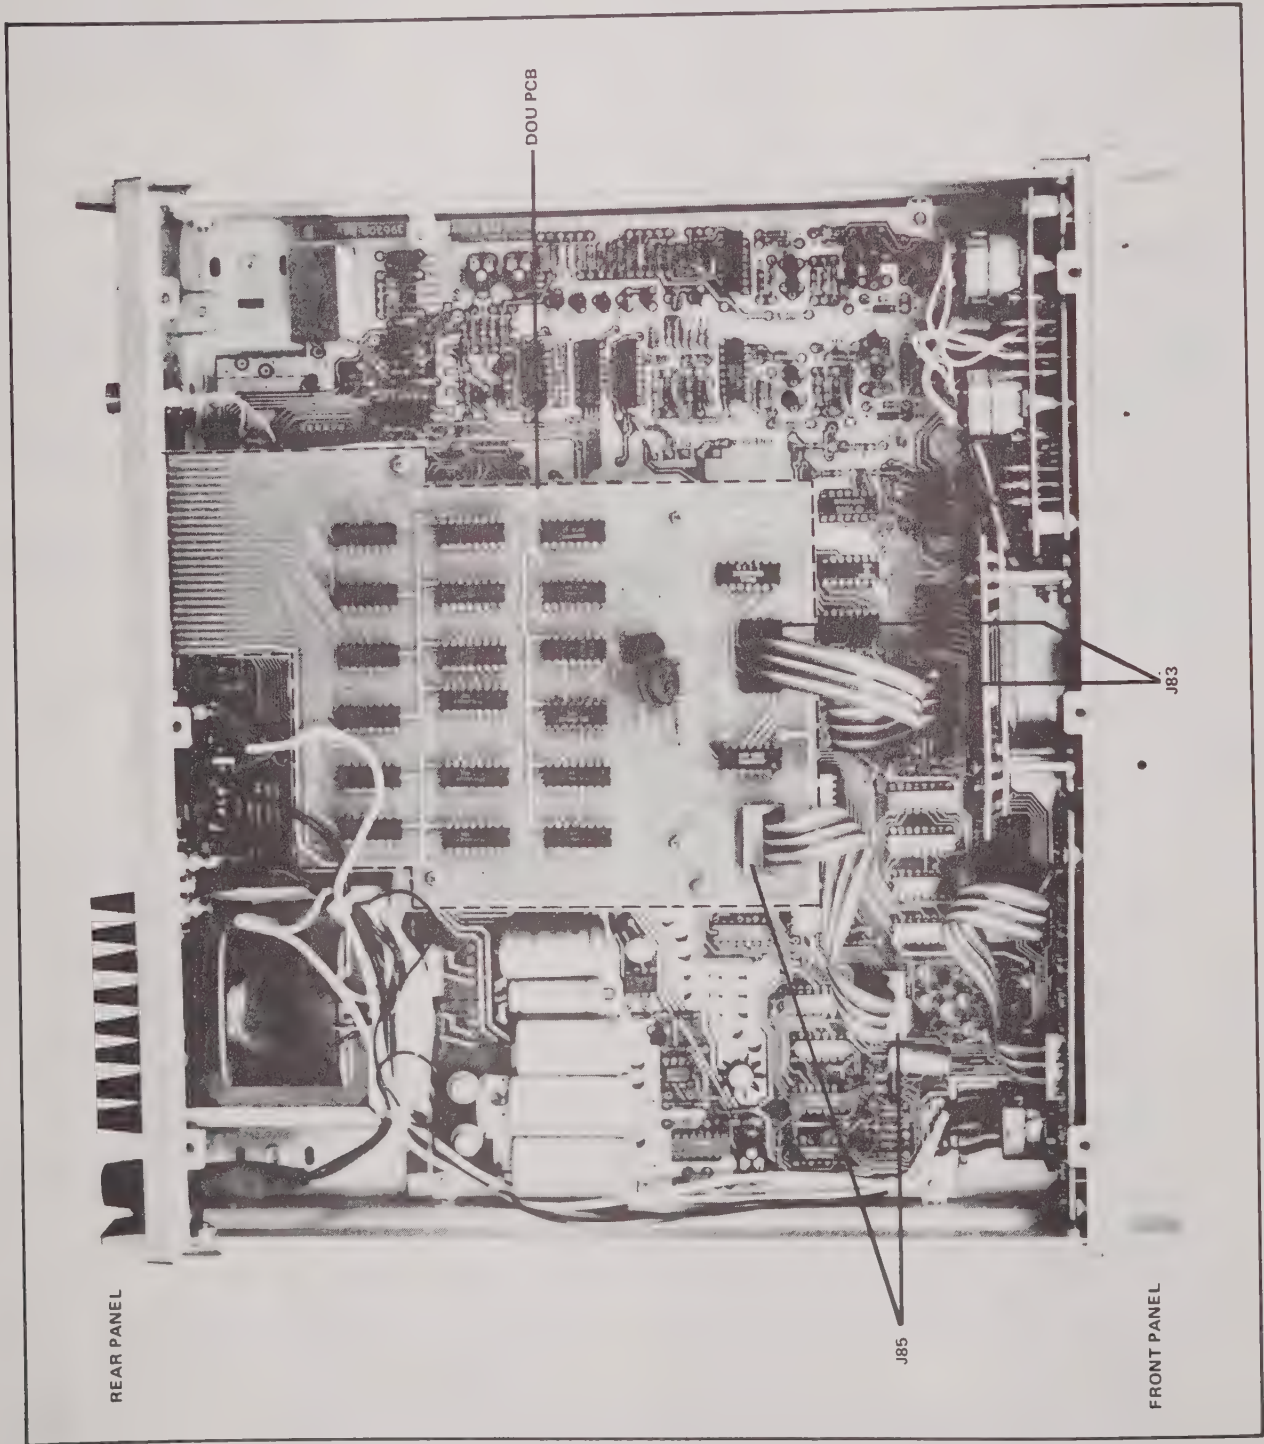

Figure 602-1. DOU Option Installed Position
- c. Position the DOU down on the main pcb in the position shown in Figure 602-1 so that the stand-offs align with the matching holes in the main pcb.
- e. Connect the DOU cable assemblies to the main pcb so that J83 connects to J83 and J85 connects to J85 as shown in Figure 602-1.